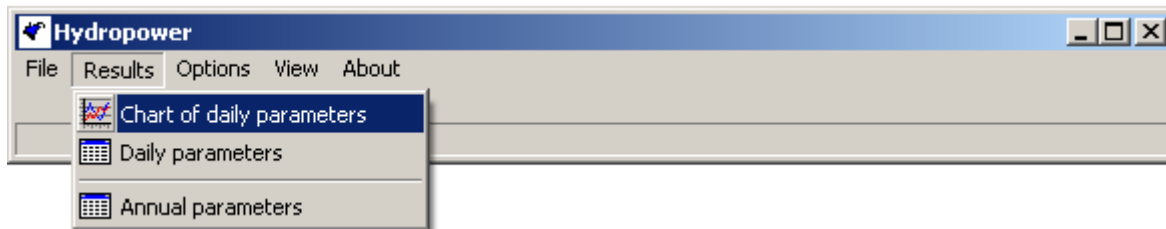

Figure 6. Accessing calculation results from the main menu bar
- ☞ *Alternatively the views can be activated via main menu bar (see Figure 6).*